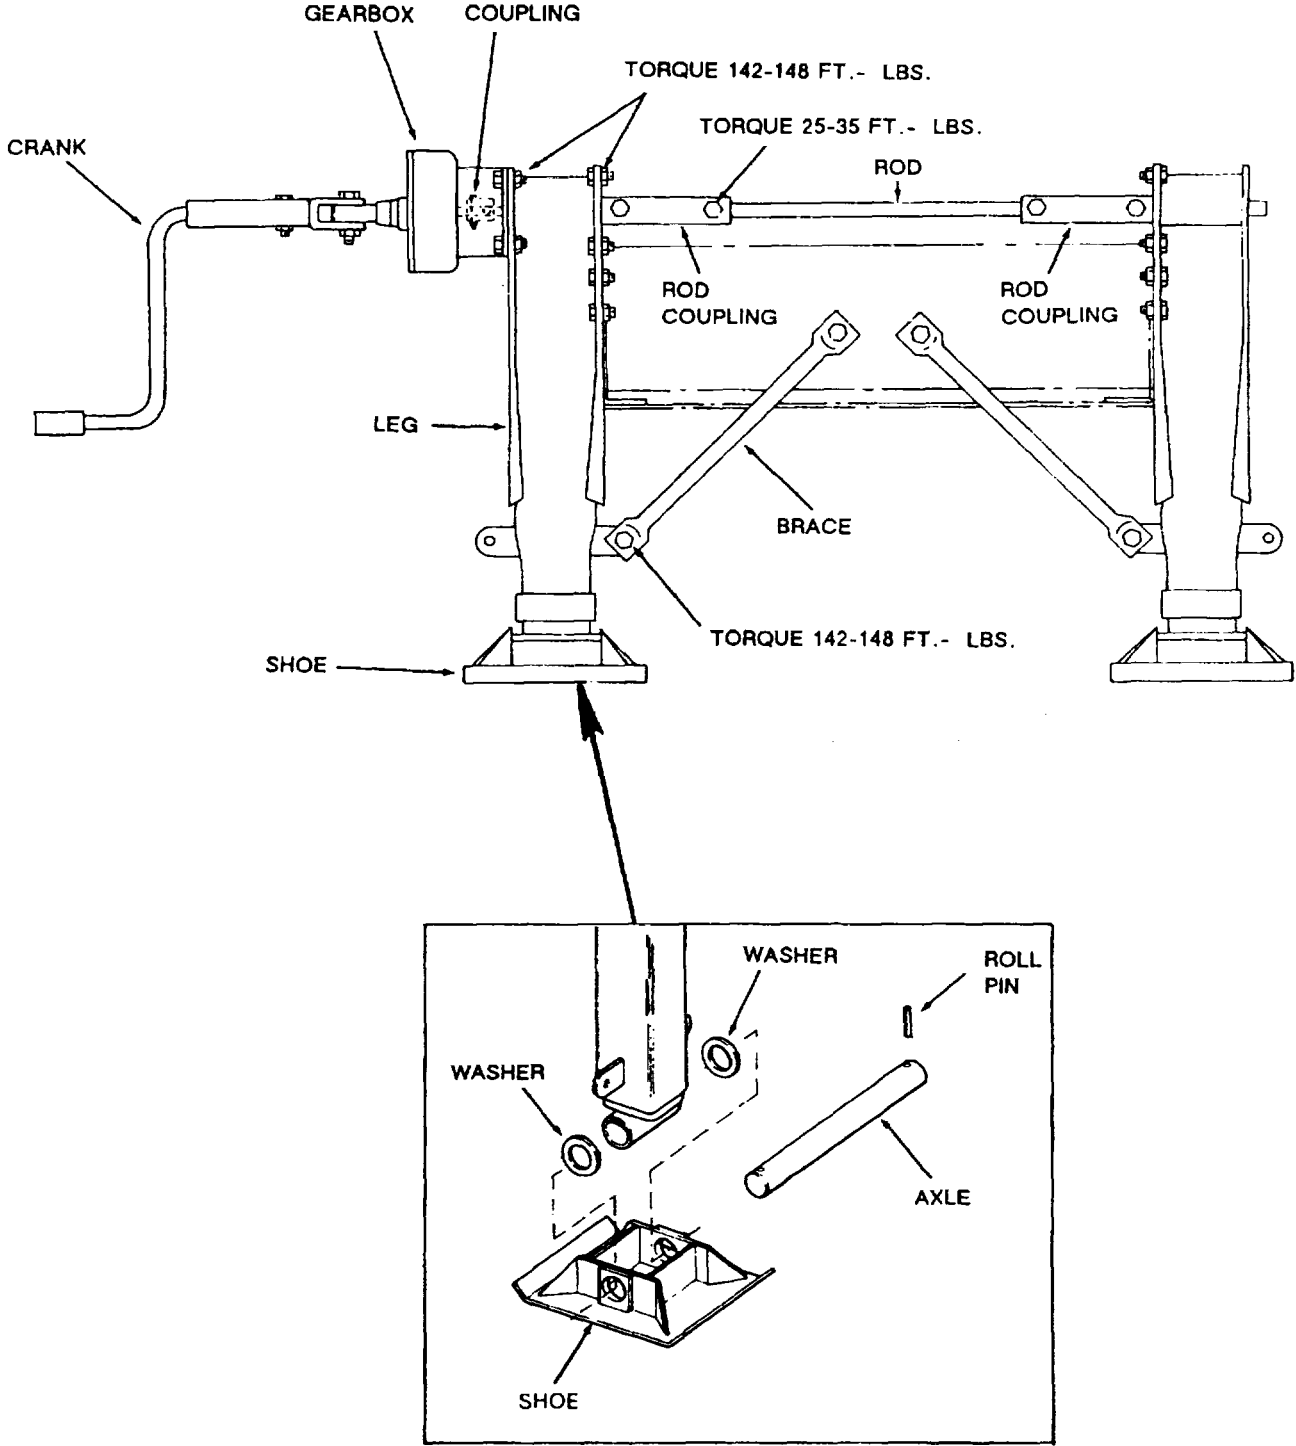

Figure 4-62. Landing Gear Installation
**4-55. Landing Gear, Fig. 4-62.**
(1) Block wheels to prevent semitrailer movement. Lift front end of semitrailer with jacks, and block securely.
(2) Remove roll pins and outer washer from lower ends of leg assembly and axle.
(3) Pull axle from shoe to be removed. Remove shoe.